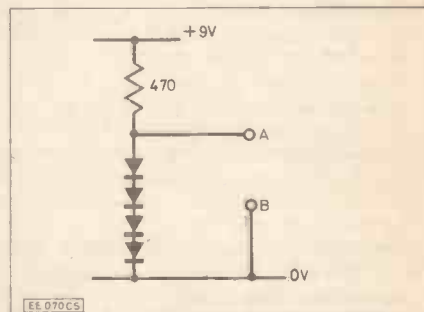

Fig. 3.30. Circuit diagram for Problem 3.2.
- Assuming that all four of the diodes shown in Fig. 3.30 are silicon types, estimate the voltage drop between A and B. Also determine the current in the resistor. (e)